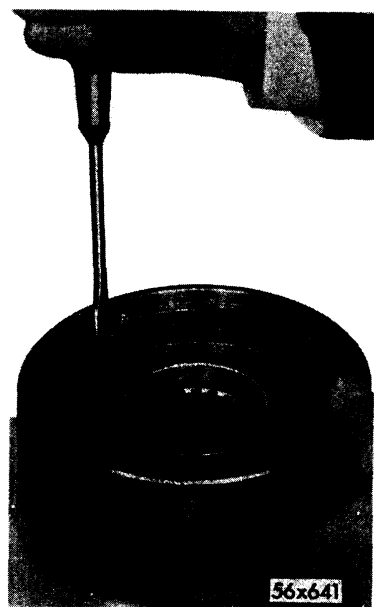
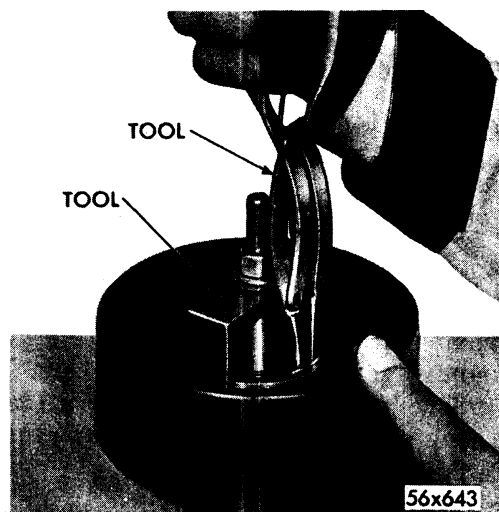

Fig. 85—Removal and Installation of Rear Clutch Piston Retainer Snap Ring
Fig. 86—Removal and Installation of Rear Clutch Spring Retainer Snap Ring
Using screw driver, remove snap ring (large) from rear clutch piston retainer assembly, as shown in Figure 85. Remove rear clutch pressure plate (L) from retainer assembly. Invert clutch piston retainer assembly and remove the clutch plates (N) for driving disc (M) assemblies. Using compressor, Tool C-3533, slightly compress the rear clutch piston return spring retainer, as shown in Figure 86. Use extreme care not to damage piston return spring retainer by compressing spring too far.